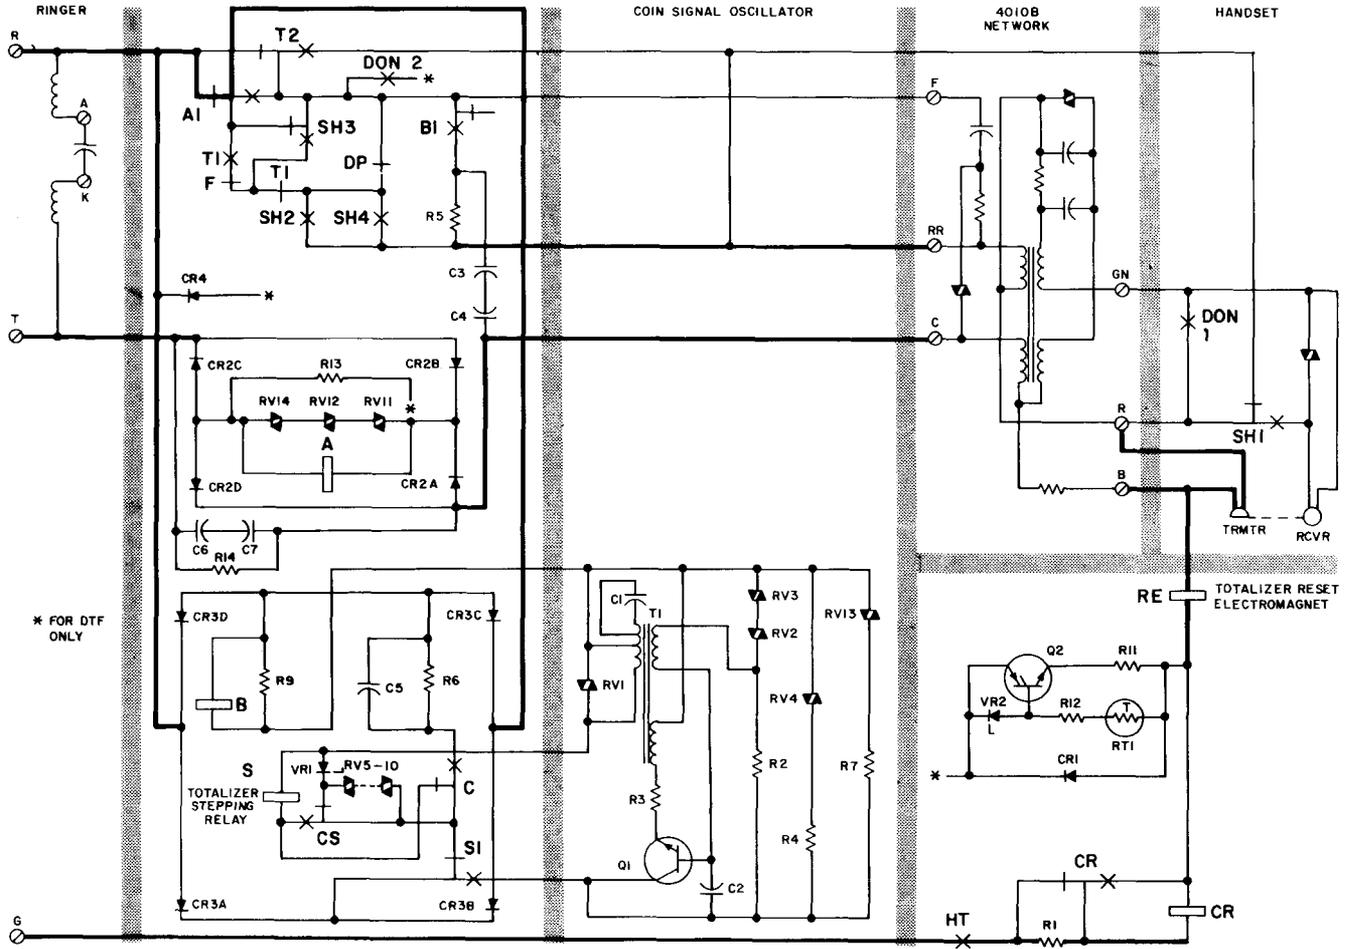

Fig. 28 - 1C1 and 2C1 Prepay Coin Telephone Sets — Schematic
7.02 Refer to Fig. 28 through 31 for schematic diagrams.